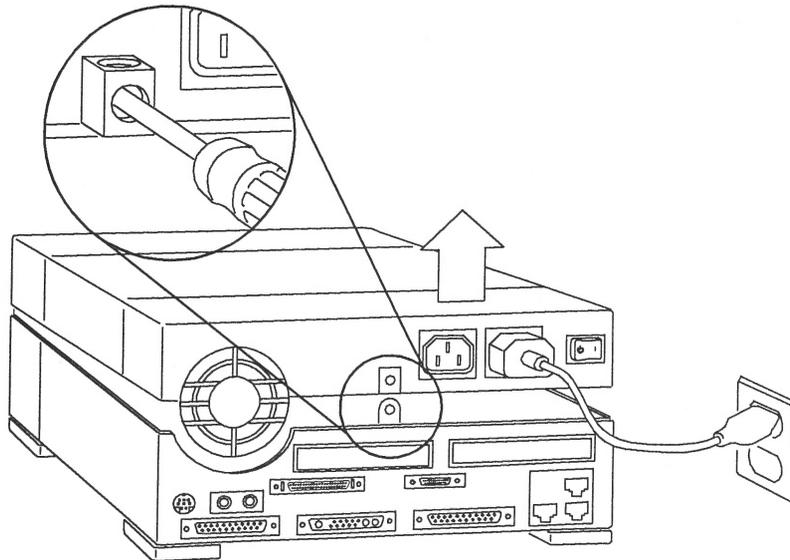

Figure 7-1 Opening the System Unit
- 3. Remove the screw that secures the lock block to the back panel. Refer to Figure 7-1.**
- 4. Grasp the unit top near its rear corners and carefully open the system unit like a suitcase. Refer to Figure 7-1.**